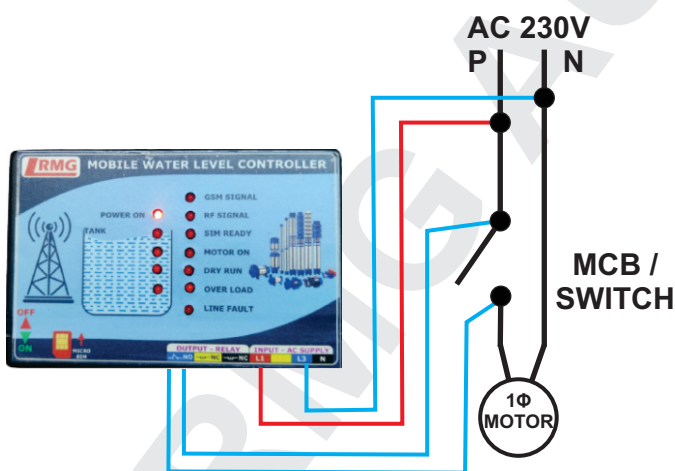
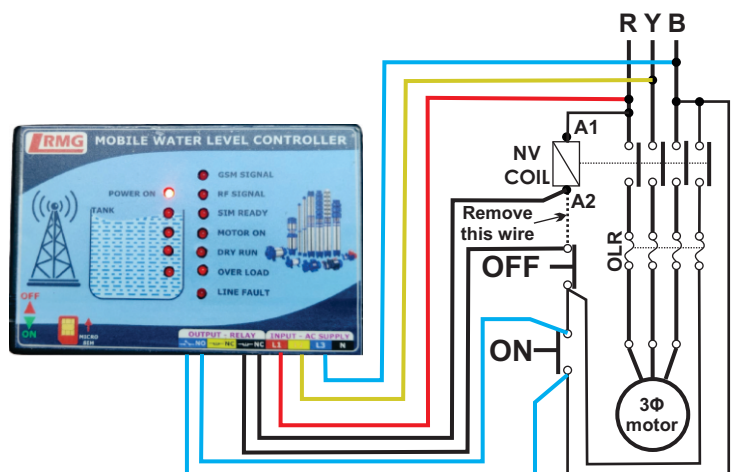
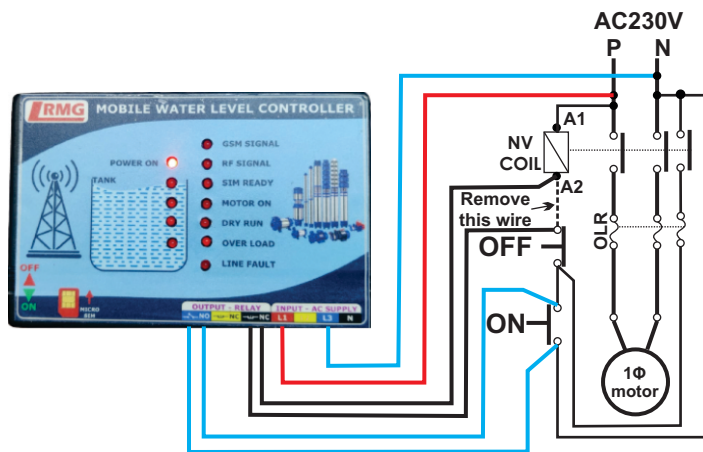

Figure 1: 1Φ SWITCH/MCB
Figure 2: 3Φ Starter
Figure3: 1Φ Starter
Step 3: For Single Phase --> Connect AC 230V to Red and Blue wires of GSM controller respectively. (refer figure 1). Do not use the yellow wire and dummy it. For Three Phase --> Connect R,Y,B to L1, L2 and L3 input of the starter. (Refer figure 2)
Step 4: For Switch or MCB, Connect blue pair wire to the switch/MCB of the motor in parallel as shown in figure 1.
Step 5: For starter, Connect blue pair wires to ON button of starter in parallel and black pair wires to OFF button in series (Refer to figure. 2 and figure. 3)